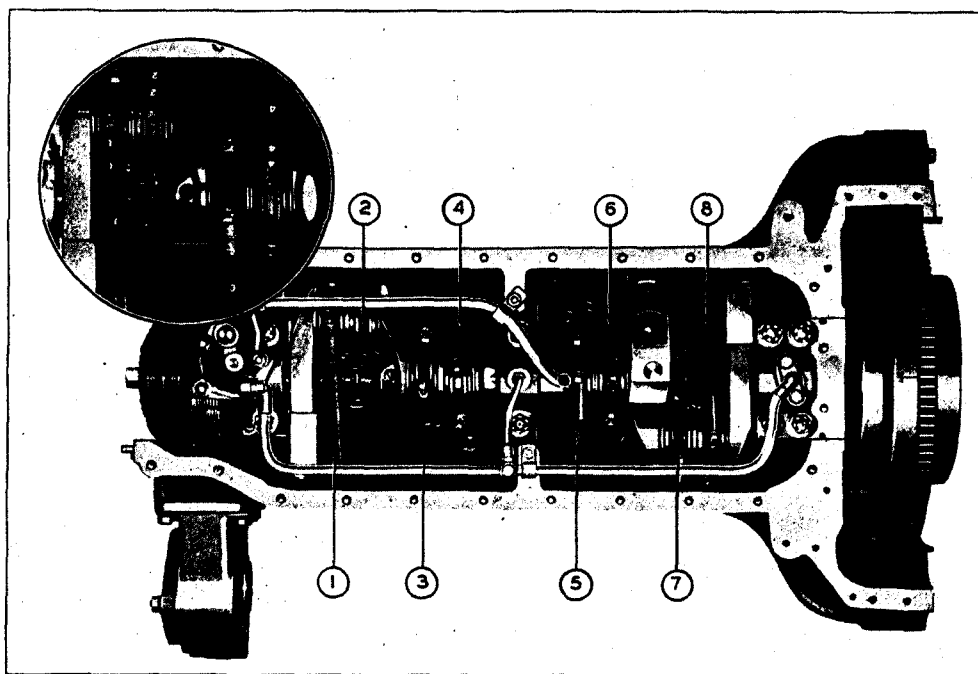

Fig. 129. Identification Numbers Stamped on Connecting Rods
LaSalle rods are numbered from 1 to 8 beginning with the rod nearest the front of the engine (Fig. 129). These numbers do not correspond to the firing order numbers. The numbers are stamped both on the rod and on the cap. Rods should always be assembled with the numbers facing toward the bottom of the engine.
1. Numbers on rods toward the bottom of the engine, (See Fig. 129).